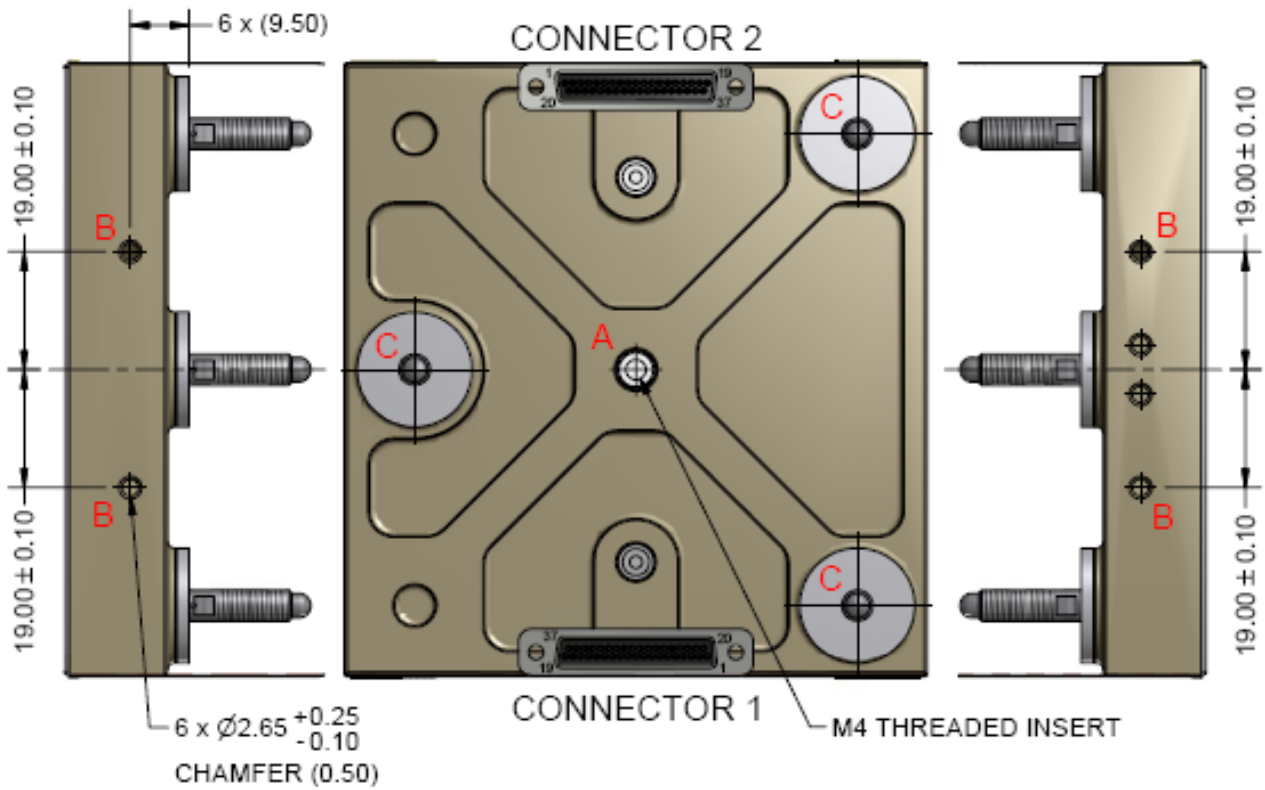
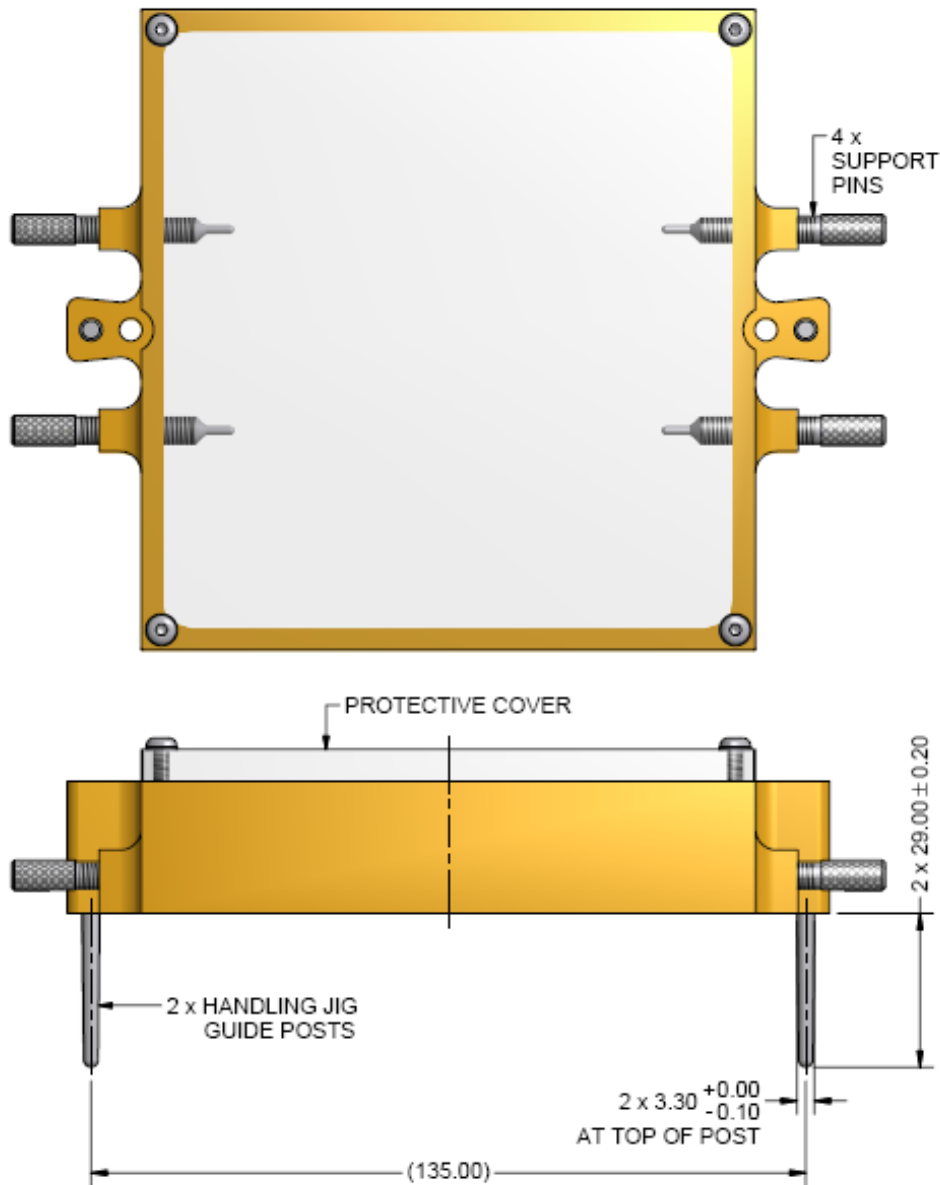
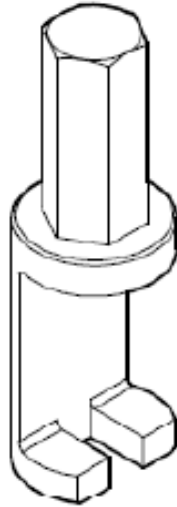

Figure 2: Schematic of the underside of the package
Figure 3: e2v jig used for device manipulation off the handling jig – 3D view.
Figure 5: Stud torque tool. Details available from e2v on request
- 4.2.2.1 Indicated as point A in Figure 2, there is an M4 threaded insert in the centre of the underside of the package. A hole in the bottom of the assembly handling jig allows access to this insert. With the device in its handling jig inverted on a level table, a rod of recommended diameter 6.35 mm (1/4") with an M4 thread at one end can be secured to the package via this insert and used to handle the device when removing it from the handling jig.
4.2.2.5 To release the CCD package from the supplied handling jig, carefully reach underneath the jig and remove the three nuts and sets crinkle washers on the studs located at points C in Figure 2, supporting the handling jig with one hand. An 8 mm hex drive socket and suitable driver may be used to release the nuts.
4.2.3.1 Four through holes, indicated as points B in Figure 2, are present in the buttable sides of the package. By design of a suitable manipulation jig, these holes can be utilised to manipulate the device. An example jig, as used by e2v, is shown in Figure 3. Details of this design are available on request.
4.2.3.5 When ready to release the device from the assembly handling jig, carefully reach underneath the jig and remove the three nuts and sets crinkle washers on the studs located at points C in Figure 2. An 8 mm hex drive socket and suitable driver may be used to release the nuts.
- 6.1 The 3 studs labelled C in figure 2 are screwed in to the package inserts. They hold the precision shims in place which guarantee the package height specification supplied with the device. If the studs/shims are removed this may nullify the package height measurements made at e2v. Should the studs be removed or come loose, they can be screwed back in to the inserts. The torque setting for screwing in the studs in as supplied is 50 (+2,-0) cNm. The studs have 2 flats in them that can be used to apply the torque for screwing them in. A special tool may be required, see Figure 5.